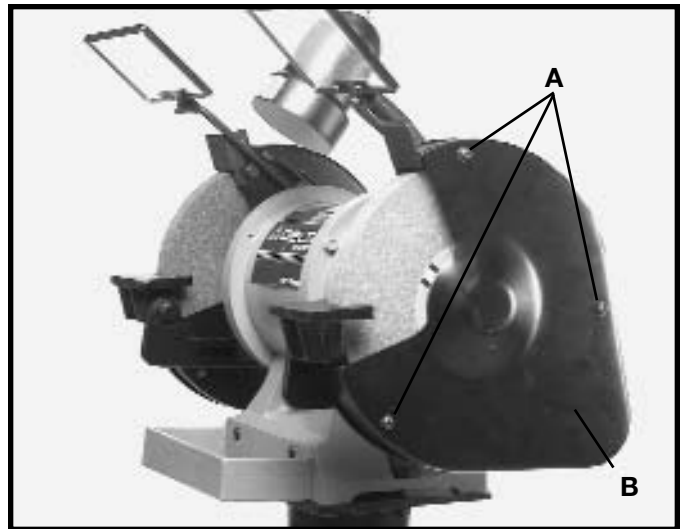

Fig. 20
1. When changing wheels, remove the three screws (A) Fig. 20, attaching the side covers to the grinder and remove the side cover (B).